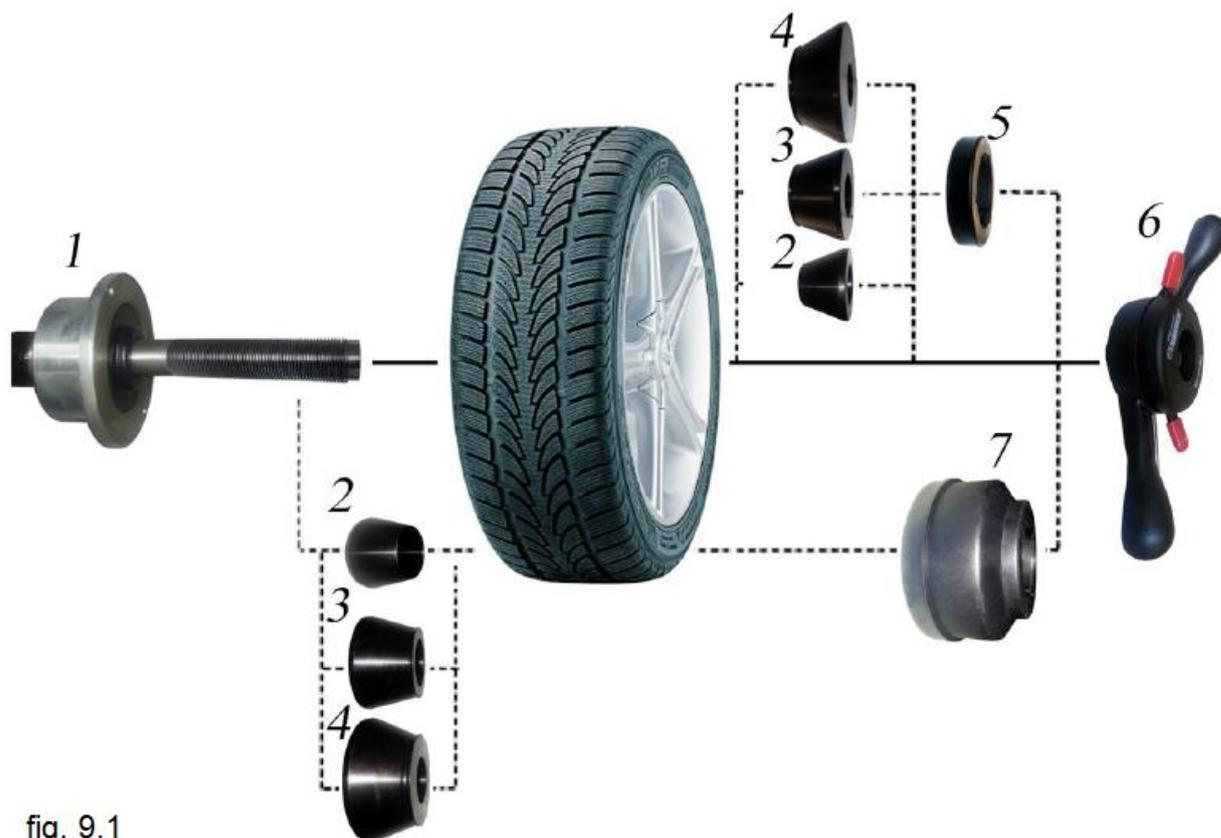

fig. 9.1
9.2. The wheel is being fixed on the shaft by its central bore with the use of the cones and the quick release nut with threaded sliding blocks. Depending on the configuration of the disc, the cone can be placed on the outer side of the disc (option "a"), or on the inner side (option "b") (fig. 9.1)
The figure 9.1 is showing the following: